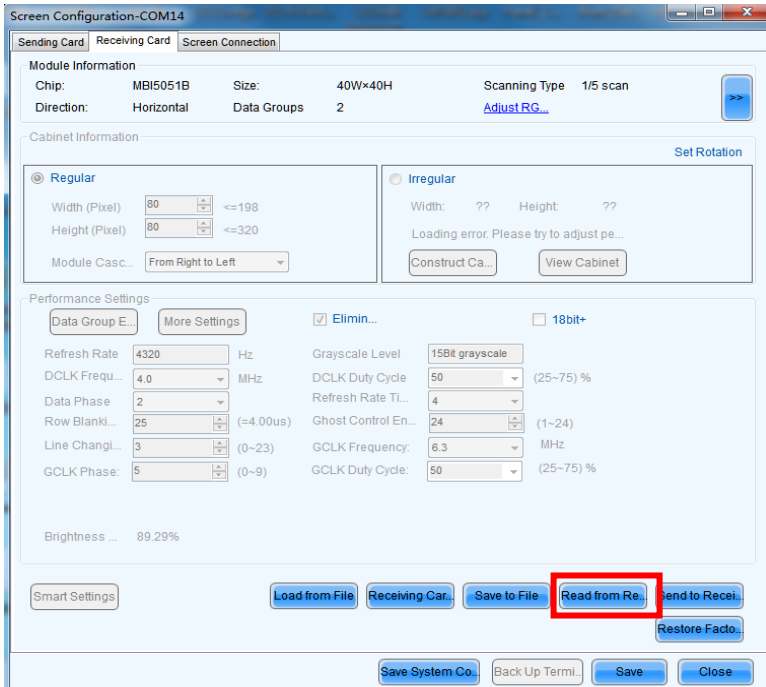

Figure A-1
- a) Click "Screen configuration" → "Receiving Card", Click "Read from Recive..."(Figure A-1).